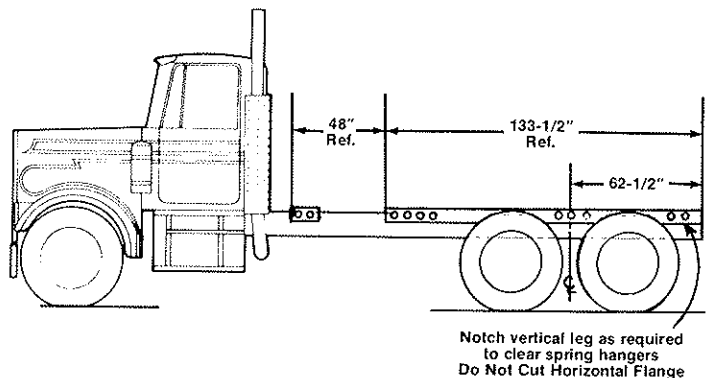

Figure 5.4
1. Cut truck frame rails off at 62-1/2" behind center line of bogie. (Fig. 5.4)
3. Place 4" x 4" x 1/2" body mounting angles on truck frame using dimensions shown in Fig. 5.4. Leg with pre-drilled holes to be vertical against side of frame. Notch vertical leg of angles as necessary to clear spring hangers and other obstructions. If a pre-drilled hole is notched out, redrill the hole as close to original position as possible. **DO NOT CUT HORIZONTAL LEG OF MOUNTING ANGLE.**